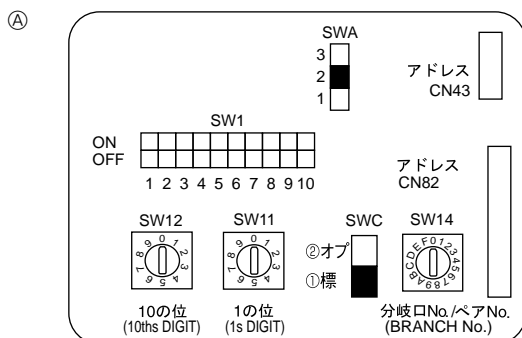

Fig. 6-4
- ③ Wireless remote controller(When installing wireless signal receiver)
6.5. Setting addresses (Fig. 6-4)
6.6. Switch setting for different ceiling heights (Fig.6-4)
6.7. Sensing room temperature with the built-in sensor in a remote controller (Fig.6-4)